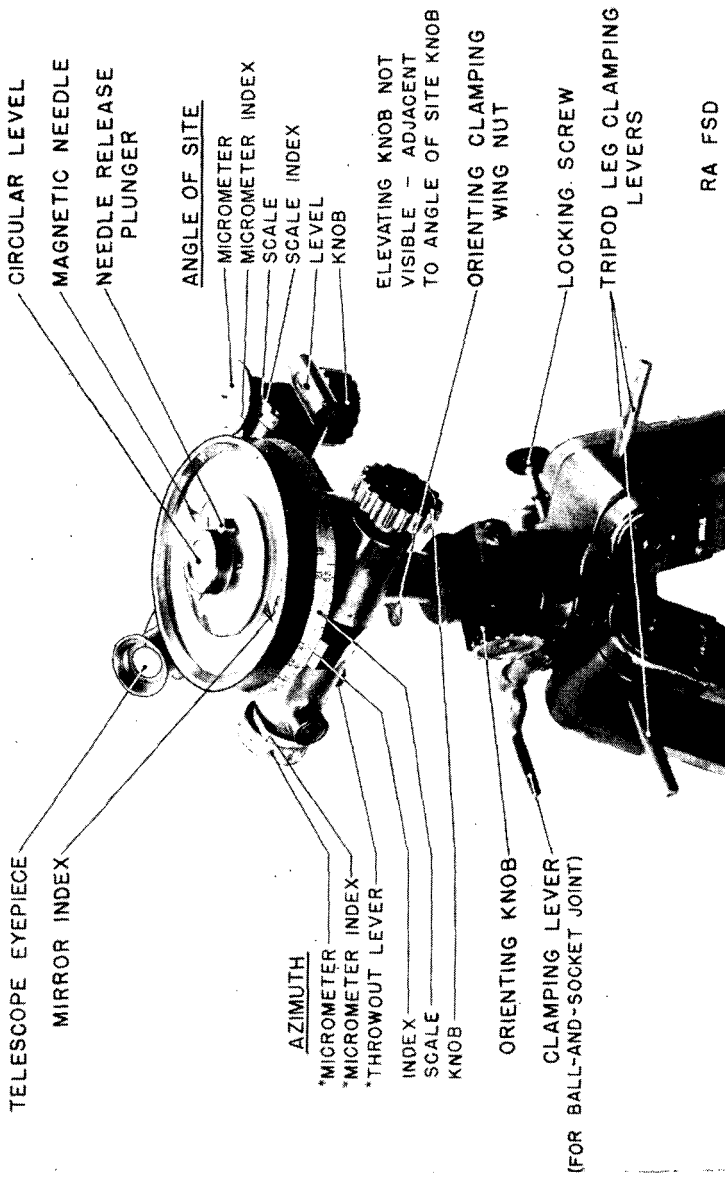

FIGURE 48.—Aiming circle, M1916.
*b. M1916 and M1916MI.*—(1) *Description.*—These two aiming circles (fig. 48) are of different manufacture but are similar in construction except for minor design features. Each instrument includes a 4.2-power fixed focus telescope with a laterally and vertically graduated reticle, a circular level, a declinator, elevating, orienting, angle of site and azimuth mechanisms, and azimuth and elevation scales and micrometers. The instrument is furnished complete with tripod, stand, and two carrying cases.